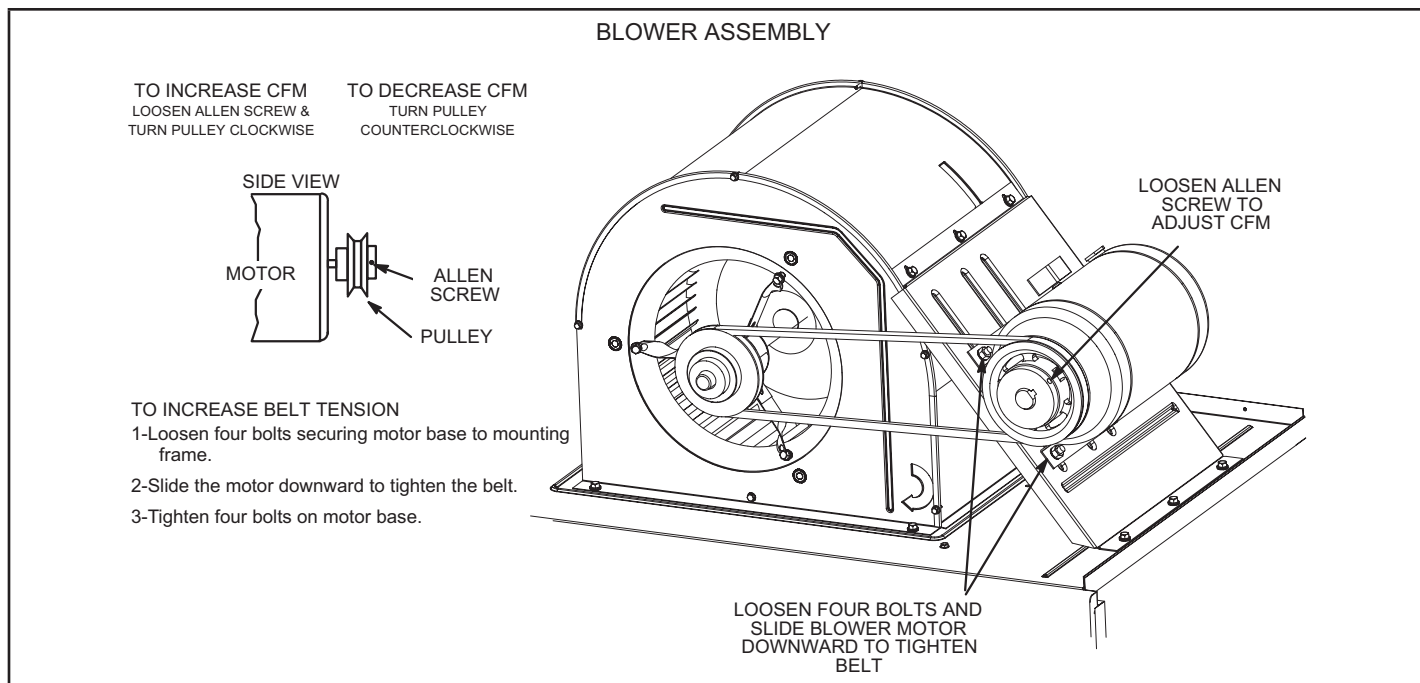

FIGURE 20
- 5 - The blower RPM can be adjusted at the motor pulley. Loosen Allen screw and turn adjustable pulley clockwise to increase CFM. Turn counterclockwise to decrease CFM. See FIGURE 20. Do not exceed minimum and maximum number of pulley turns as shown in table 5.
- 1 - Loosen four bolts securing motor base to mounting frame. See FIGURE 20.